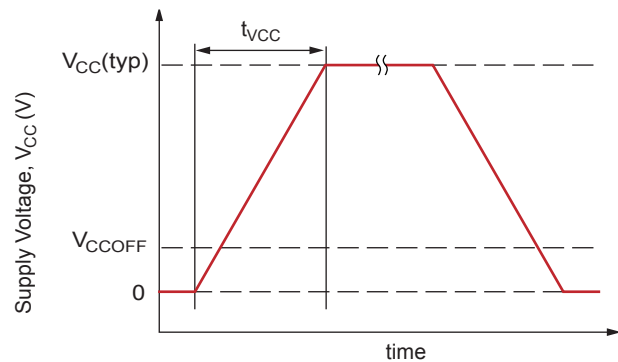

Figure 4. Definition of VCC Ramp Time,  $t_{VCC}$
**VCC Ramp Time.** The time taken for VCC to ramp from 0 V to VCC(typ), 3.3 V (see figure 4).
**VCC Off Level.** For applications in which the VCC pin of the A1318 or A1319 is being power-cycled (for example using a multiplexer to toggle the part on and off), the specification of VCC Off Level, VCCOFF, determines how high a VCC off voltage can be tolerated while still ensuring proper operation and startup of the device (see figure 4).